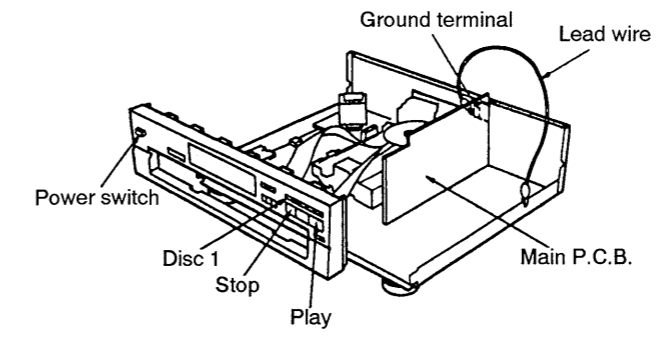

Fig. 3
10. When checking the soldered surface of the main P.C.B., do as shown in Fig. 3.